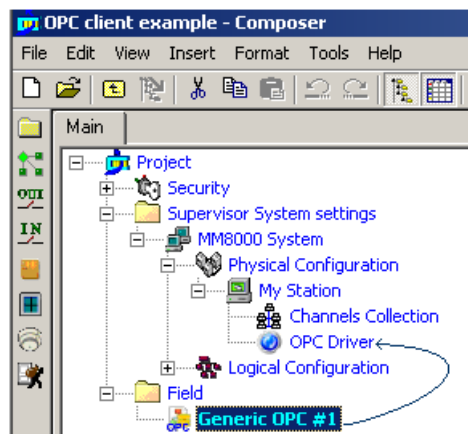

Fig 4 Linking the OPC subsystem to the corresponding driver
- Drag the subsystem node to the 'OPC Driver' node (see Fig 4).